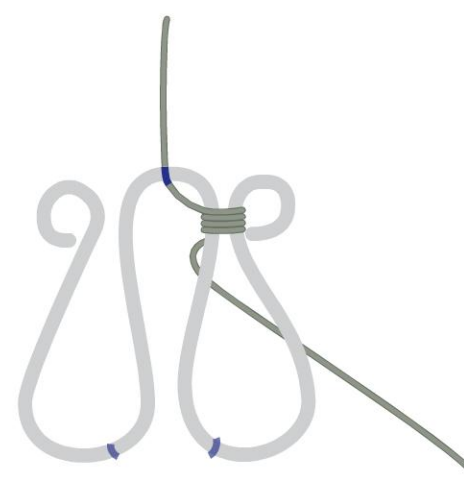

figure 4
**Use** the 26-gauge wire to coil one of the small loops of the 16-gauge wire, passing through the small loop and the center loop (Figure 4). Coil these together four times. The small loops can be opened as you would open a jump ring, making it much easier to coil.